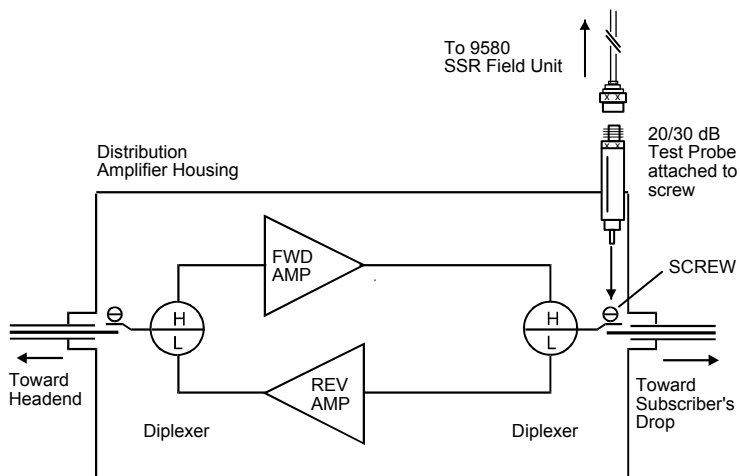

Figure 3. Single Test Connection.
- Single test connection (See Figure 3 below):